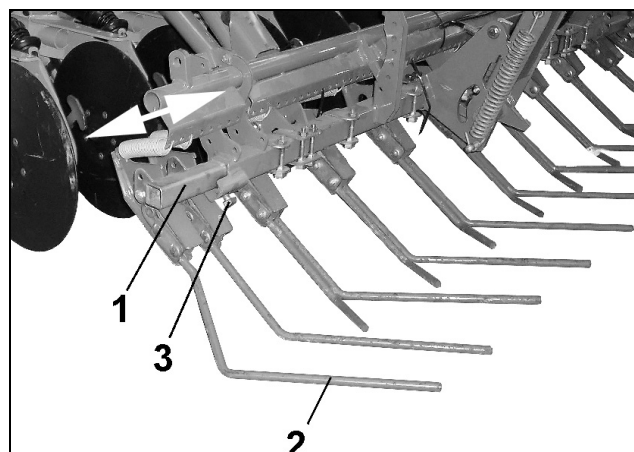

Fig. 29
The exact harrow (Fig. 29/1) covers the seed in the seed furrows evenly with loose soil levels the soil. Adjustable functions
- Set the outer harrow tines (Fig. 29/1) in such a way that the soil is guided inwards in order to achieve a track free seed bed.
- The higher the forward speed, the more the square tube (Fig. 29/2) should be pushed outwards.
- After any setting secure the square tubes with the outer harrow tines by using clamping bolts (Fig. 29/3).
For the transport on public roads push the carrying tubes (Fig. 29/1) with the outer harrow tines (Fig. 29/2) into the harrow carrying tube right up to the stop. Beforehand slacken the clamping bolt (Fig. 29/3) and firmly retighten afterwards.